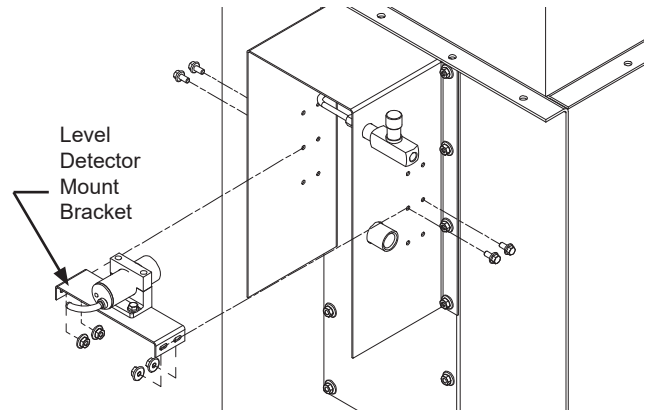

Figure 34 - Level Detector
**Level Detector Vertical Position** There are three (3) vertical positions the level detector can be adjusted to (see Figure 34). Remove mounting hardware and adjust to the preferred level. Maintain 1/16" clearance between the sensor and the window. Tighten hardware.